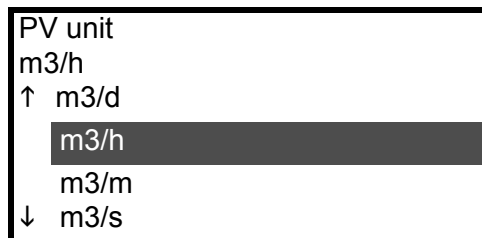

Figure 10 Selection of flow rate unit
4. Once the display as shown in Figure 10 appears, move the arrow key up or down to select a flow unit. After making a selection, press F4 (ENTER). If F3 (ESC) is pressed here, the selection will be canceled and the display will return to the basic menu.